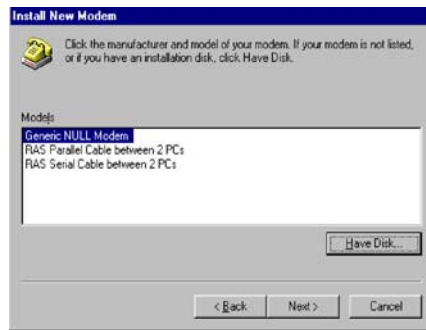

Figure 7 Install New Modem
11. Click **Next>** when ready (Figure 7).